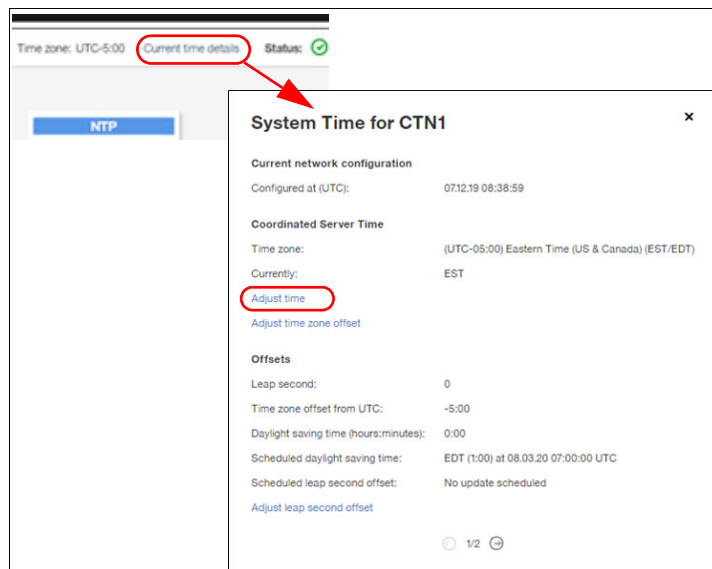

Figure 5-23 Adjusting the time
1. In the Manage System Time tab, access the Current time details panel (over the graphical topology view) and click **Adjust time** (Figure 5-23).